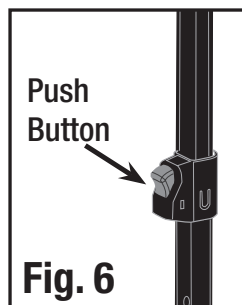

Fig. 6
- Adjust desired height until push button locks into place, making sure all four posts are level. (Fig. 6 & 7)